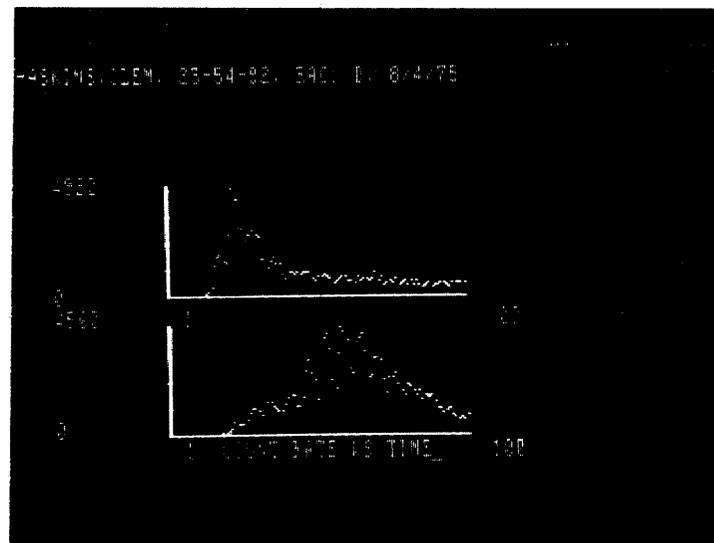

FIGURE 14. Dynamic curves of the left and right ventricles
- 3) plot the curves and save them in a save area (SD_n). (Figure 14)